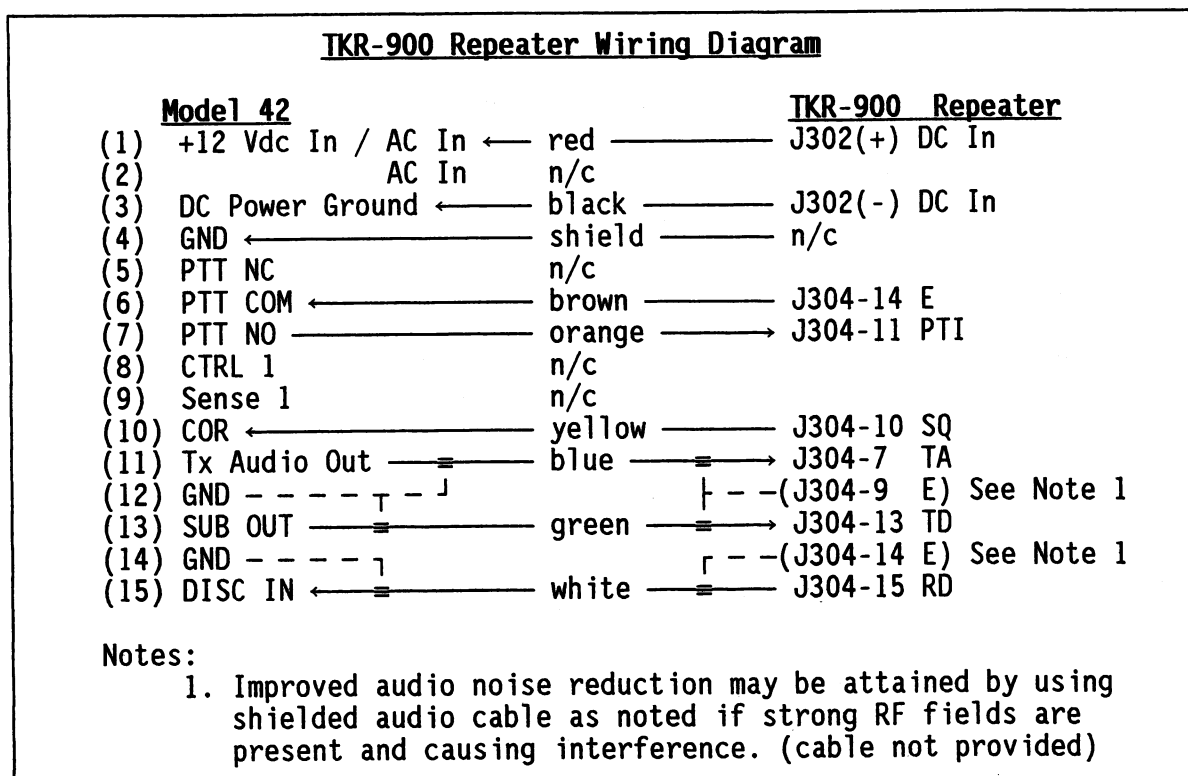

Figure 4-4. Model 42 Generic Cable (709-7116) to Kenwood Repeater
- []6. Connect the Model 42 to the TKR-900 Logic Interface connector (J304) with the Generic repeater cable (709-7116) as shown in Figure 4-4.